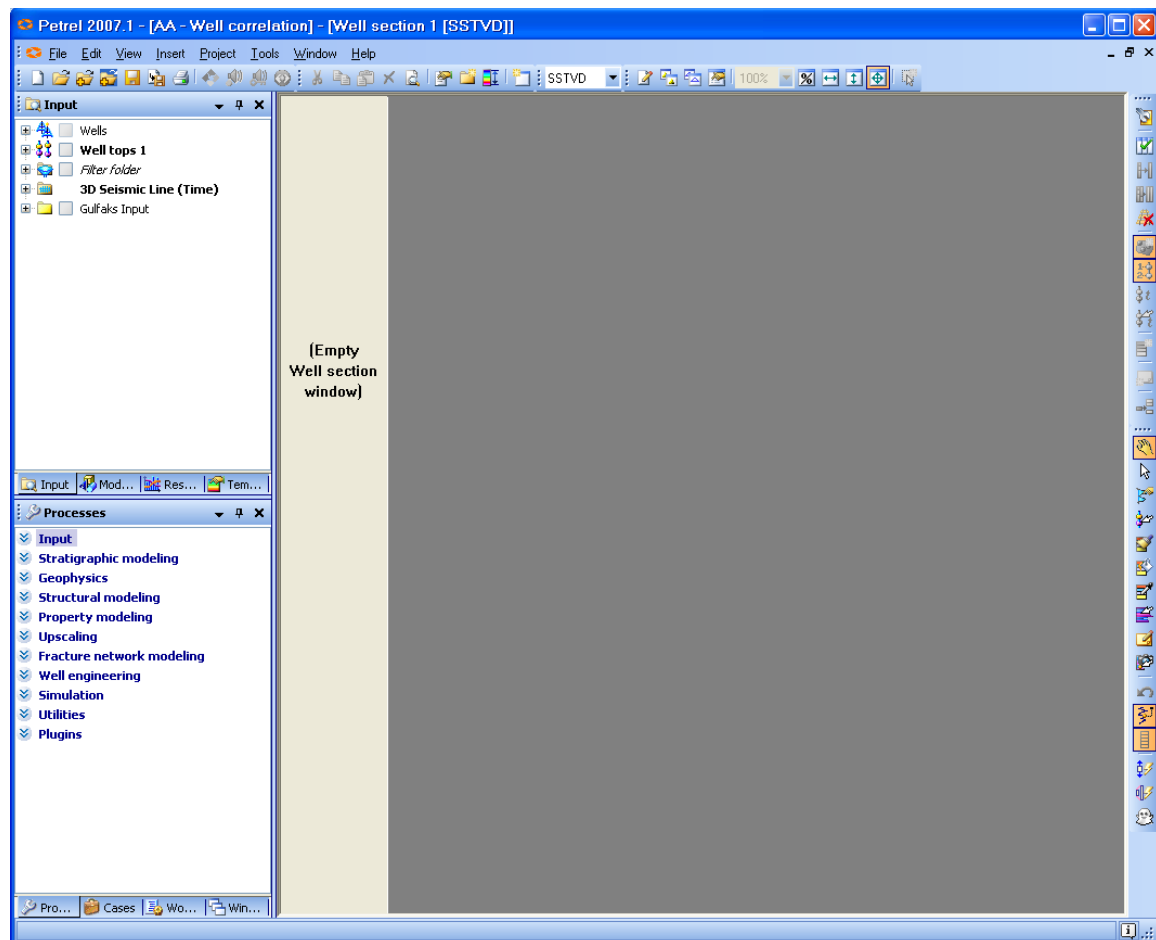

Fig. 10.2: An empty Well Section window
2. An empty Well Section window is created as shown in Fig. 10.2.